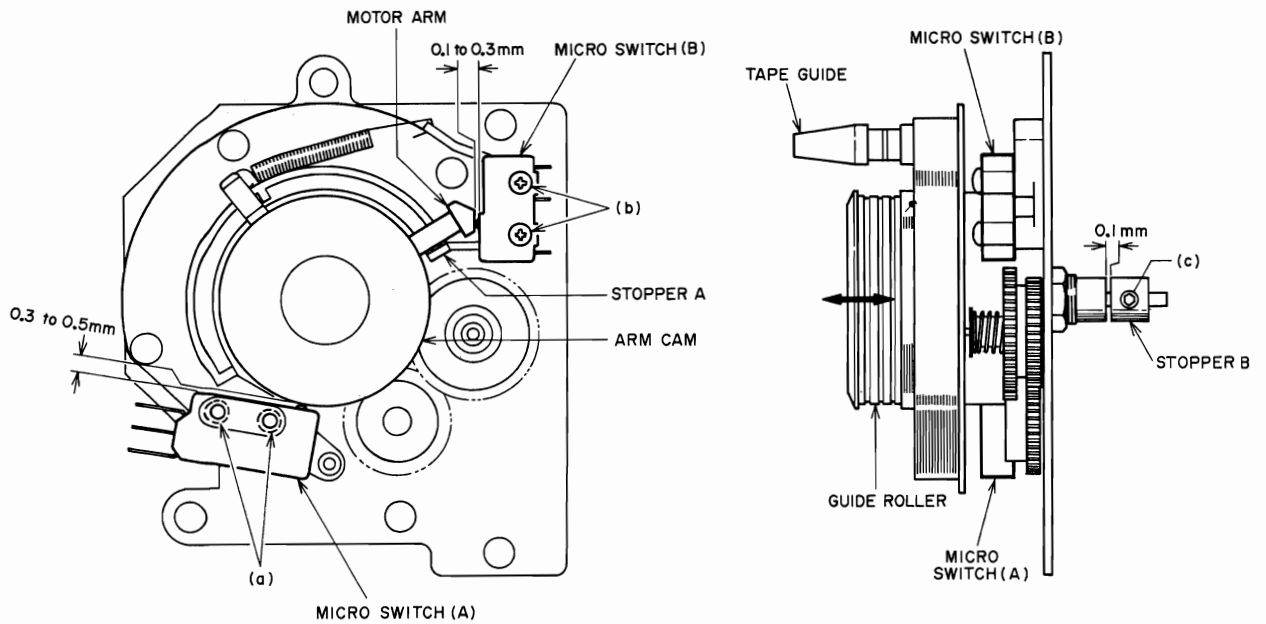

Fig. 7-1 Roller Block
ADJUSTMENT (Refer to Fig. 7-1)
Adjust the stopper B (roller pulley on the right) screw (c) so that the loose play gap is approximately 0.1 mm when the guide roller is moved as indicated by arrow mark in Fig. 7-1.
2. MICRO SWITCH POSITION ADJUSTMENT (Refer to Fig. 7-1)